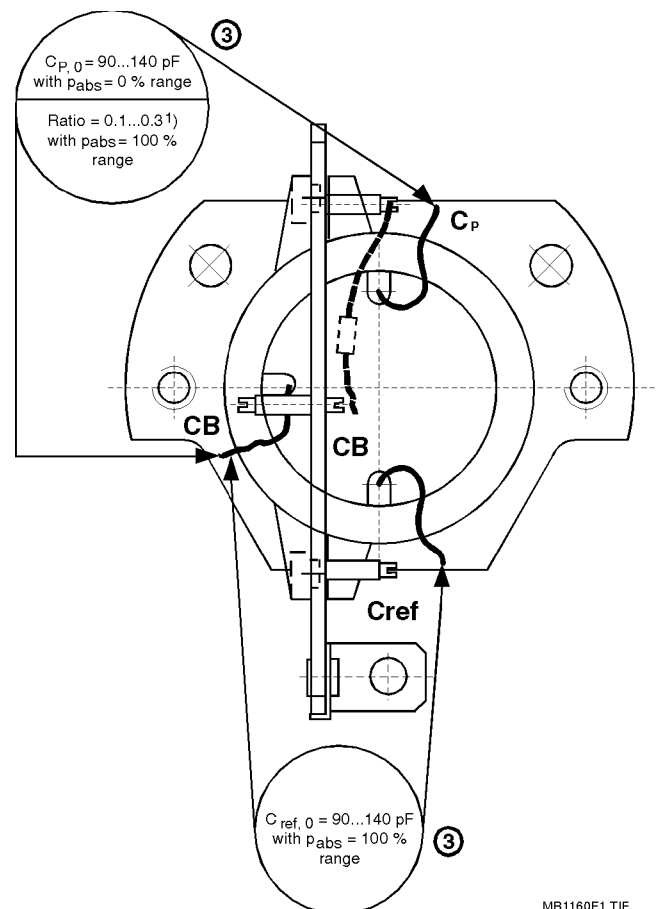

Fig. 24.
3. Using a **capacitance bridge** (Fig. 24),